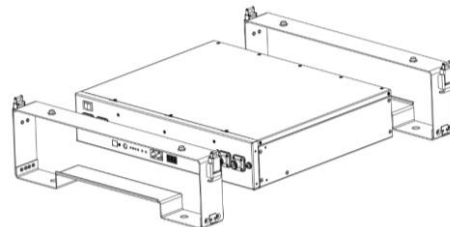

Figure3-5
- Complete insert the B4850 into the bracket as figure3-5, pay attention to push the B4850 to the buckle position.